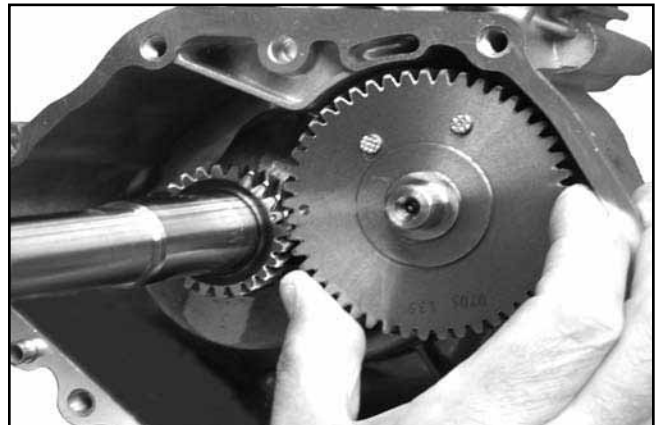

Figure 8-48. Removing Camshaft.
1. Remove the camshaft from the crankcase. See Figure 8-48.